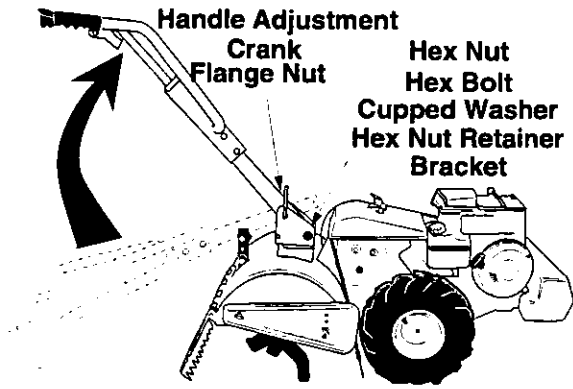

Figure 5
3. Lift up the handle assembly and align bottom holes in the handle assembly with the holes in the pivot bracket. From the left side of the unit, insert hex bolt with cupped washer (cupped side against pivot bracket) and hex nut retainer bracket (bolt through round hole) through the bottom holes on the handle pivot bracket and handle assembly.) See Figure 5.